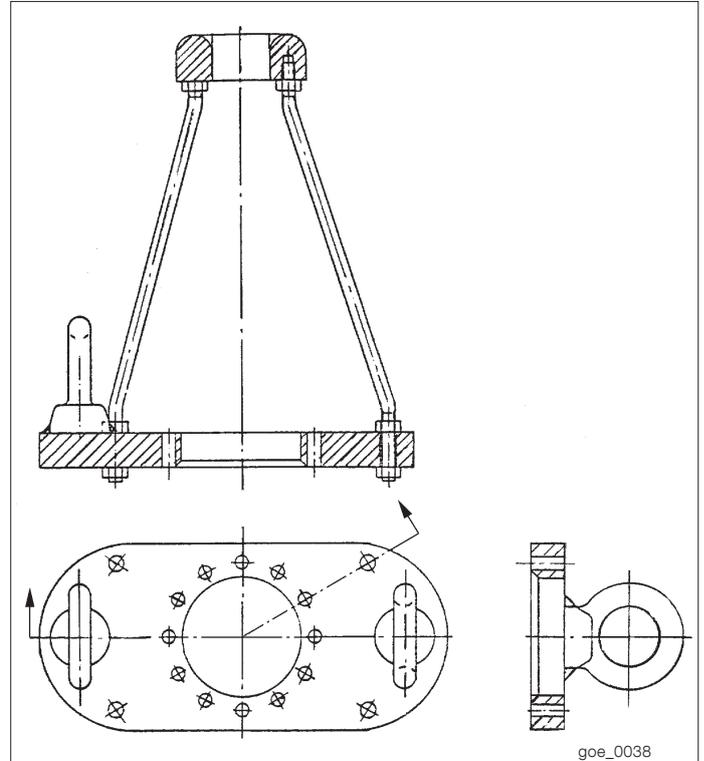

Fig. 4. Lifting gear, 9760 667-A. Mass: 14 kg (steel).
- Lifting gear, 9760 667-A, see Fig. 4